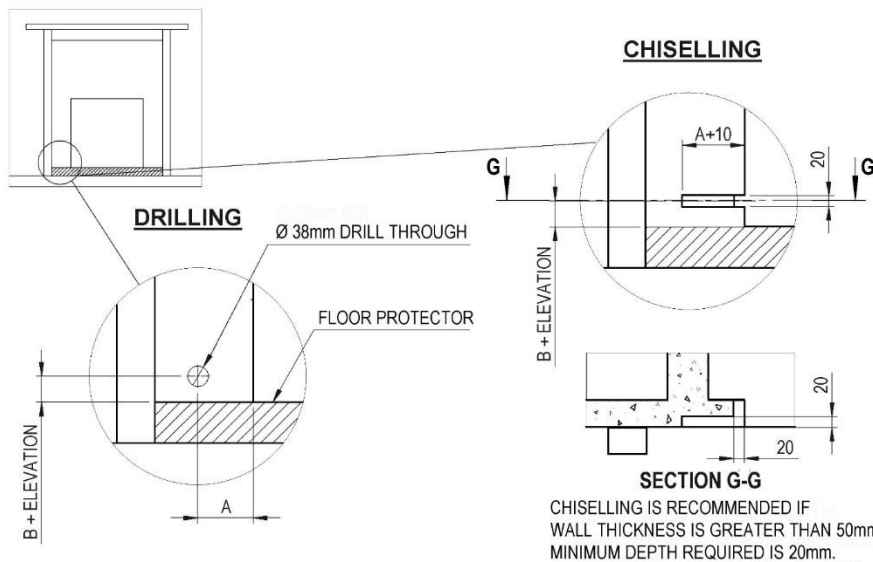
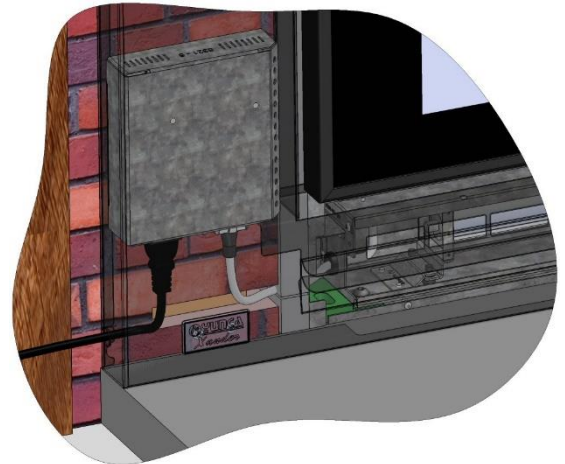

Fig. 11
Fig. 12
- Ensure wiring for fan (Fig. 11, Fig. 12) is taken into account when preparing cavity.